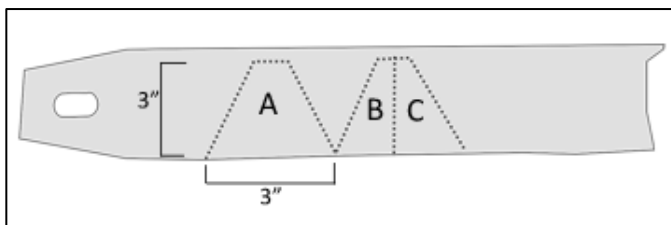

Figure 4 - 4-bladed point cut from leaf-spring steel
- viii. Cut parts A, B, and C from leaf-spring steel using a miter saw (Figure 4).
- iii. Cut parts A, B, and C from leaf-spring steel using a miter saw (Figure 4, page 12). The size of the blades should be slightly larger than the movable point drill bit. This is because the fixed-point bit is often used to widen the borehole.